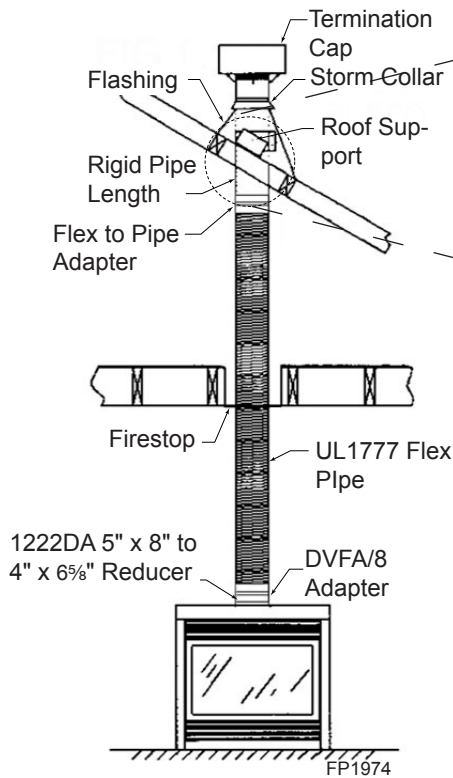

Figure 38 - Typical Vertical Flex Vent Installation
A. Installing the inner flex adapter and pipe. *Figure 38*
2. Install firestop spacers, *Figure 38*, when penetrating ceiling, attic spaces, or walls.
4. Use only listed and approved terminations and accessories, installed per the installation instructions and *Figure 38*.
CAUTION A manual shutoff valve must be installed upstream of the appliance. Union tee and plugged 1/8" NPT pressure tapping point should be installed upstream of the appliance. See *Figure 38*.